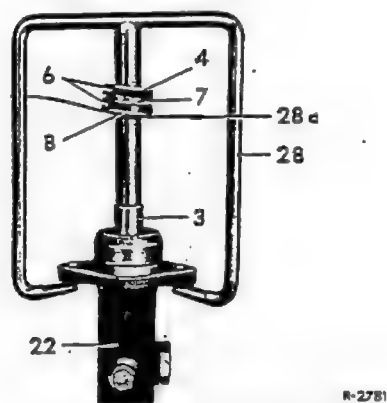

Fig. 42-3a/30
9. Clamp the master cylinder in a vise in such a way that the bore points upward. Depress the intermediate piston with the drift (31) until it reaches the stop in the housing (22); then screw the stop screw (15) with a new copper sealing ring (16) into the housing (see Fig. 42-3a/19).